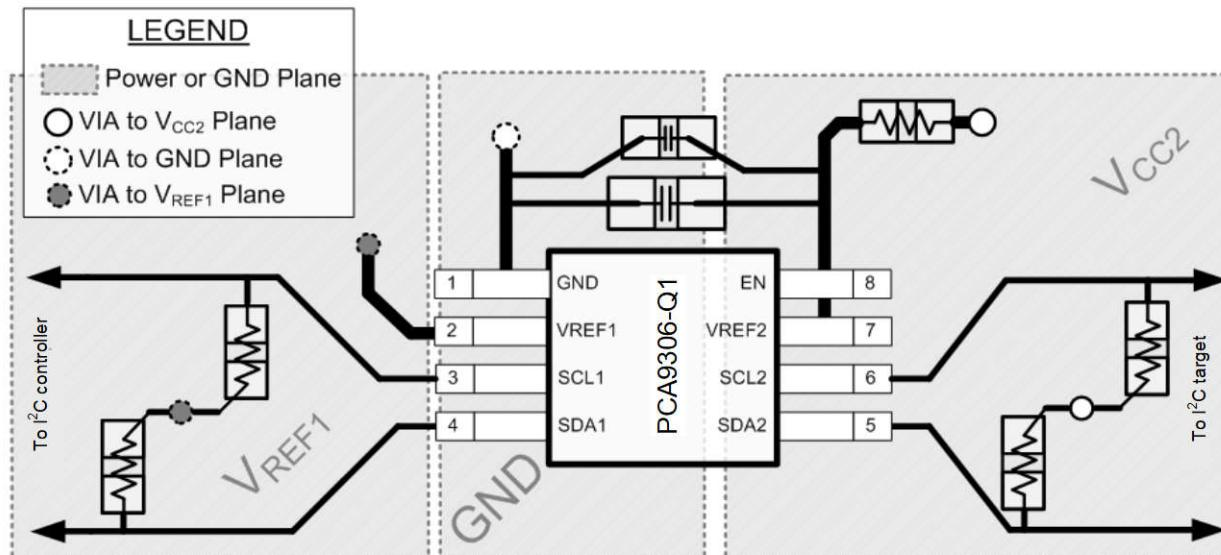

Figure 11-1. PCA9306 Layout Example
In all PCB layouts, it is a best practice to avoid right angles in signal traces, to fan out signal traces away from each other on leaving the vicinity of an integrated circuit (IC), and to use thicker trace widths to carry higher amounts of current that commonly pass through power and ground traces. The 100-pF filter capacitor should be placed as close to V_{REF2} as possible. A larger decoupling capacitor can also be used, but a longer time constant of two capacitors and the 200-k Ω resistor results in longer turnon and turnoff times for the PCA9306 device. These best practices are shown in Figure 11-1.
For the layout example provided in Figure 11-1, it would be possible to fabricate a PCB with only two layers by using the top layer for signal routing and the bottom layer as a split plane for power (V_{CC}) and ground (GND). However, a four-layer board is preferable for boards with higher-density signal routing. On a four-layer PCB, it is common to route signals on the top and bottom layer, dedicate one internal layer to a ground plane, and dedicate the other internal layer to a power plane. In a board layout using planes or split planes for power and ground, vias are placed directly next to the surface-mount component pad, which must attach to V_{CC} or GND, and the via is connected electrically to the internal layer or the other side of the board. Vias are also used when a signal trace must be routed to the opposite side of the board, but this technique is not demonstrated in Figure 11-1.